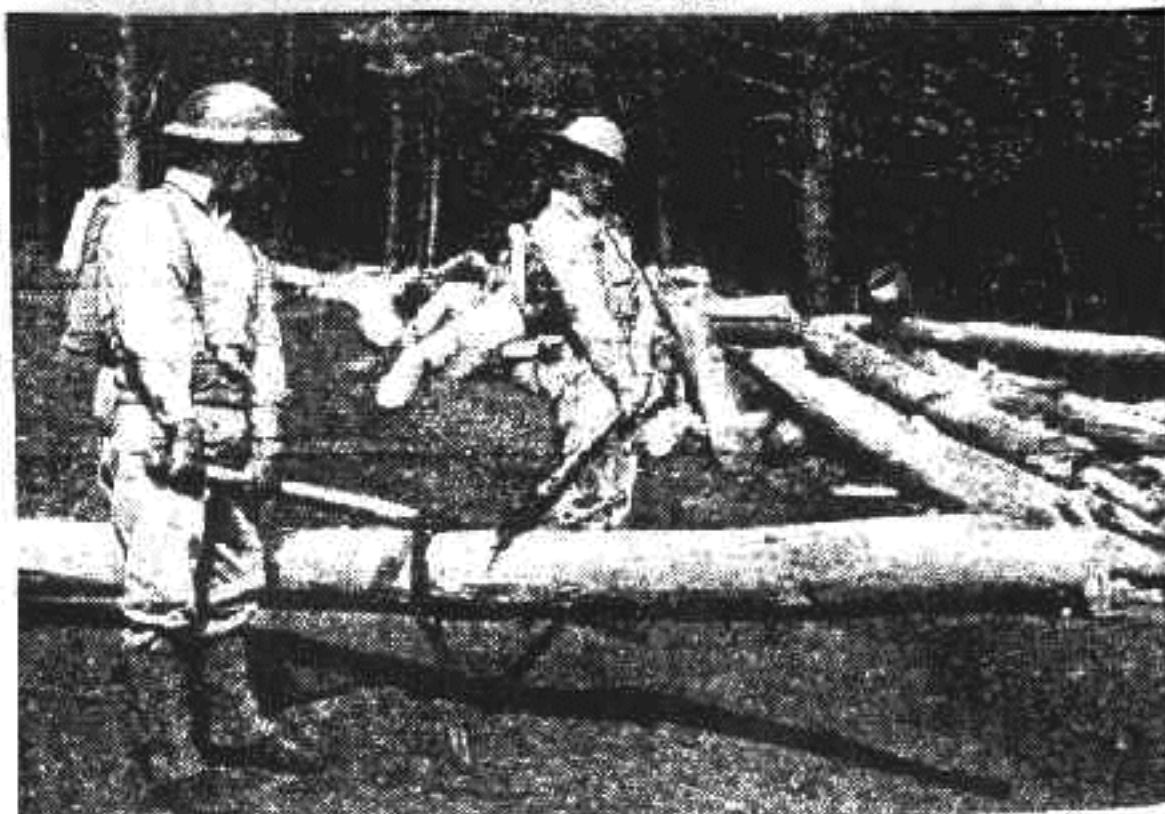

FIGURE 40.—Using the peavy to carry heavy timber.
carry heavy logs with peavies, men should be distributed equally on each side of the log. (See fig. 40.)
(2) For carrying somewhat heavier objects, more men may be used in a similar manner, but it is better to use pick handles, pipes or bars of ample length placed underneath. Two men (on opposite sides of the load) carry each handle. Timber and rail tongs, if available, should be used in the same manner, except that the load hangs below the handles. Figure 40 illustrates the use of the peavy to carry timber. Extremely heavy loads should be handled on pipe rollers, wheeled dollies, block and tackle, or by machines.
② LAP JOINT